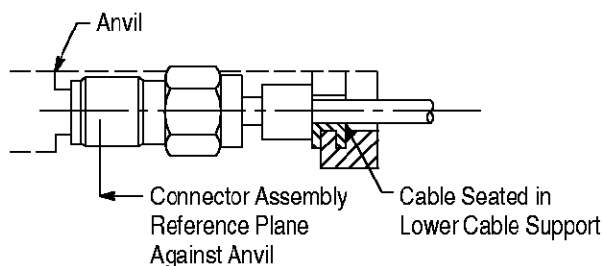

Figure 4
- Place the connector assembly in the crimp tool so that the connector reference plane (shown in Figure 4) of the connector assembly is against the anvil and the cable sits in the lower cable support. See Figure 4.